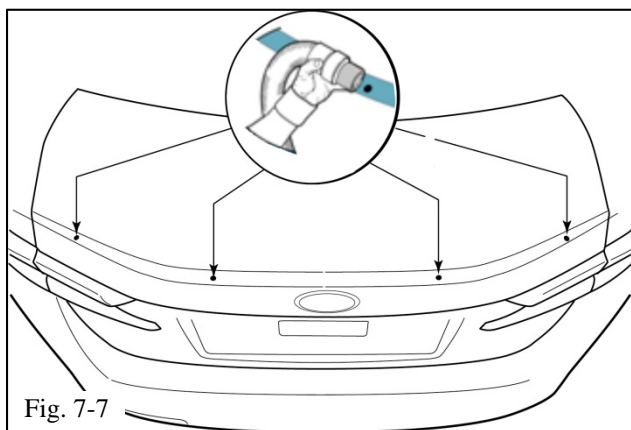

Fig. 7-7
- (k) Vacuum the metal shavings from both sides of the trunk lid (Fig. 7-7).